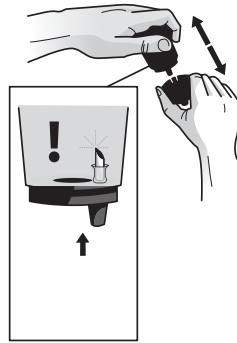

FIGURE 1
2. **Cleaning the Funnel** – The Funnel can be removed from the K-Cup® Pack Holder by pulling on it until it snaps off (fig. 1). The Funnel is dishwasher safe. To replace it, just snap it back onto the K-Cup® Pack Holder Assembly.